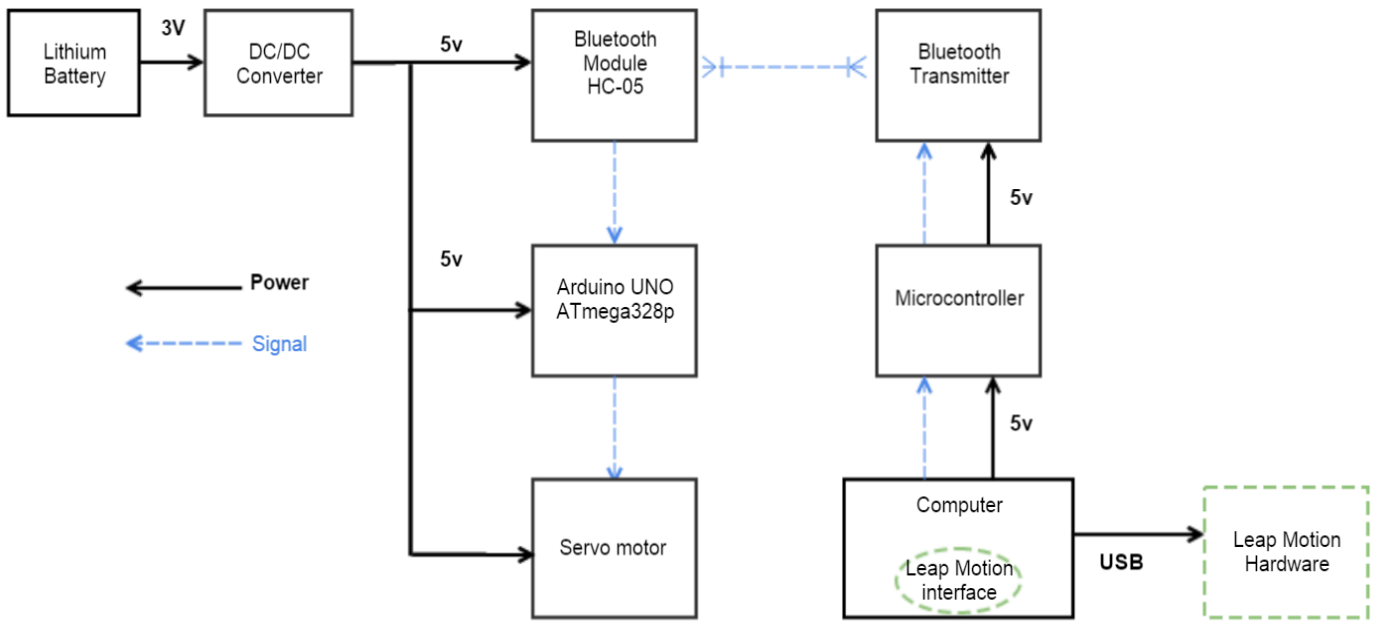

figure 1: block diagram
1. Figure 1: YouTube channel "<https://www.youtube.com/watch?v=XICTT-mTtco>"